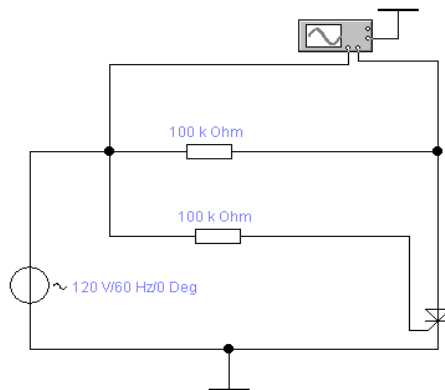

Figure 7.2 – Turning on the thyristor through the control circuit
4. Draw a schematic diagram of fig. 7.2.